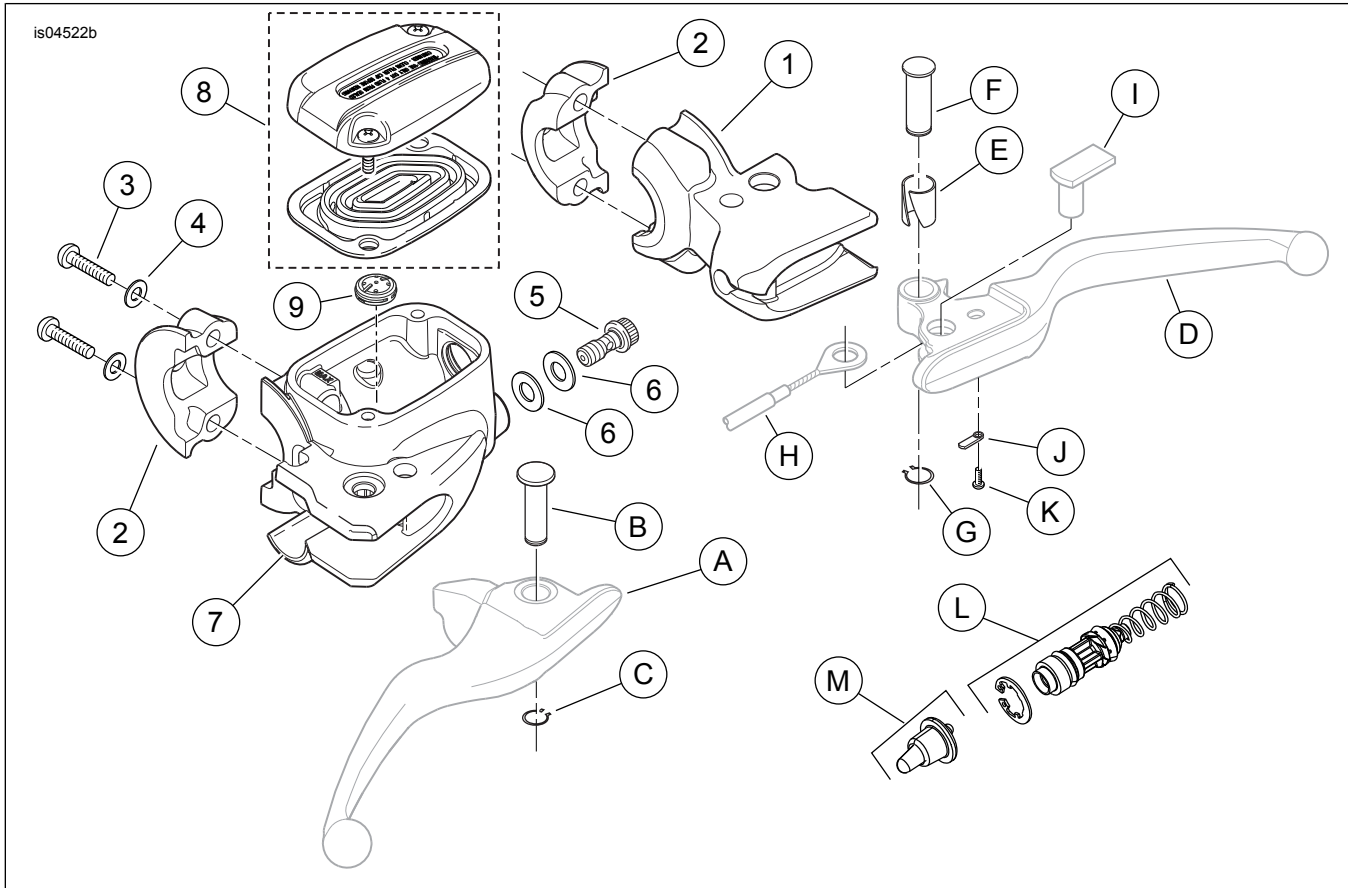

Figure 5. Service Parts, Chrome Clutch Bracket and Front Brake Master Cylinder Kit
3. See Figure 5. Remove and **discard** the retaining ring (G) from the pivot pin (F). Remove and **retain** the pin from the clutch lever bracket (1).
4. Remove the clutch cable anchor pin (I) from the clutch hand lever (D). Remove the clevis end of the clutch cable (H) and the hand lever from the bracket.
5. Using a T-27 TORX® drive head, remove and discard the two screws (3) and flat washers (4) securing the handlebar clamp (2) to the clutch lever bracket. Remove the clutch lever bracket and clamp from the handlebar.
1. See Figure 5. Obtain the OE clutch hand lever (D) removed earlier, or a new lever (purchased separately). Verify that the pivot bushing (E) is in place.
2. Place the clevis end of the clutch cable (H) in position in the clutch lever, and slide the anchor pin (I) into place. The flat in the pin must face in toward the hand lever.